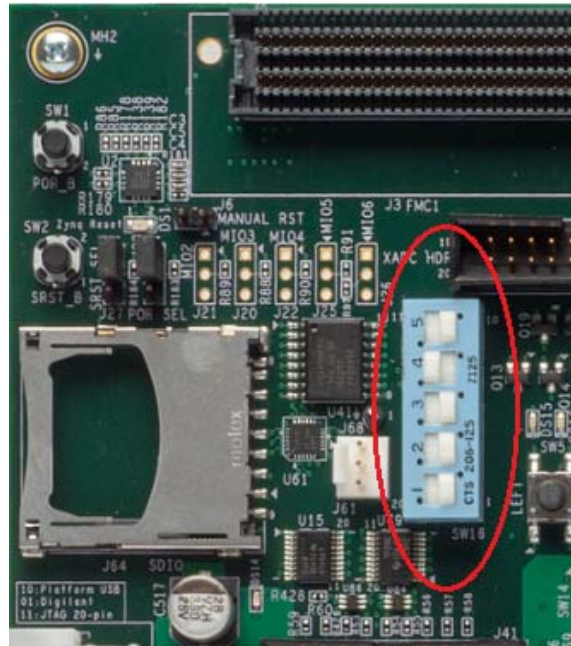

Figure 5-5: Jumper Settings for Booting Linux from QSPI Flash
1. After you program the QSPI Flash, set the SW16 switch on your board as shown in Figure 5-5.